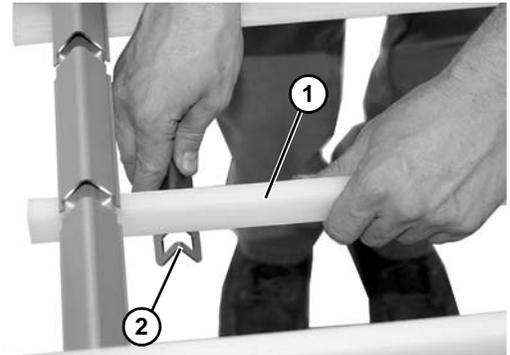

Figure 32
1. Remove return strips (Figure 32, item 1), from brackets (Figure 32, item 2).